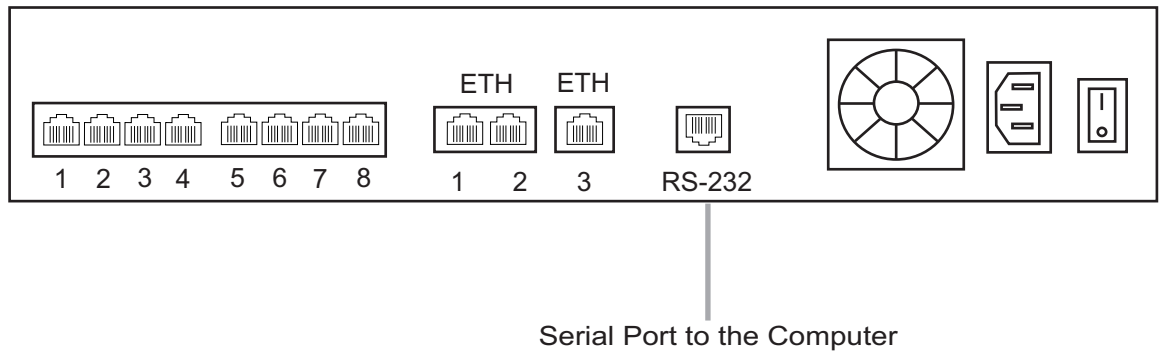

Figure 5.1 Computer to TMG800 Serial Port Connection
1. Connect a RJ45 CAT5 straight cable (supplied with unit) between the com port of your computer and the serial port (labelled RS-232) of the TMG800 as shown in figure 5.1 on page 24. See figure 5.3 on page 25 for a RJ-45 pinout description.